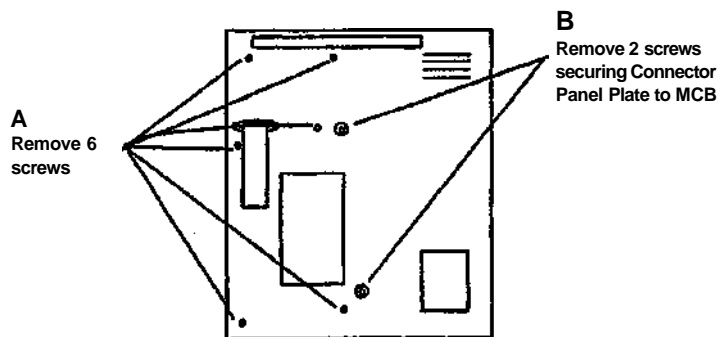

Figure 4 Rear view of 8830 Controller showing screws to be removed from the 8830 Printer Right Lower Cover
8. (Figure 4): Flip the assembly over and remove the screws that fasten the 8830 printer Right Lower Cover to the 8830 Controller chassis.